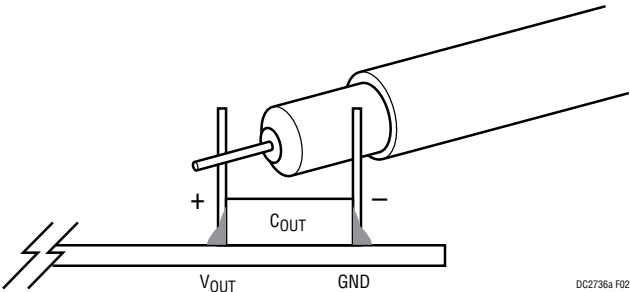

Figure 2. Measuring Output Voltage Ripple
1. When measuring the output or input voltage ripple, do not use the long ground lead on the oscilloscope probe. See Figure 2 for the proper scope probe technique. Short, stiff leads need to be soldered to the (+) and (–) terminals of an output capacitor. The probe's ground ring needs to touch the (–) lead and the probe tip needs to touch the (+) lead.